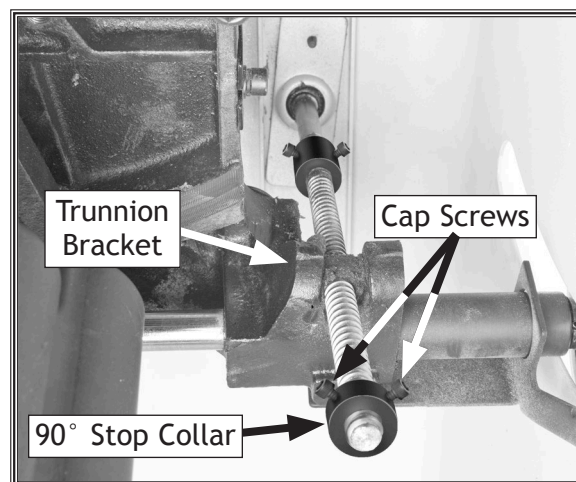

Figure 90. 90° stop collar and cap screws.
5. Open the motor access cover, loosen the cap screws shown in **Figure 90**, then thread the 90° stop collar one turn away from the trunnion bracket. This will allow you to square the blade in the next step.